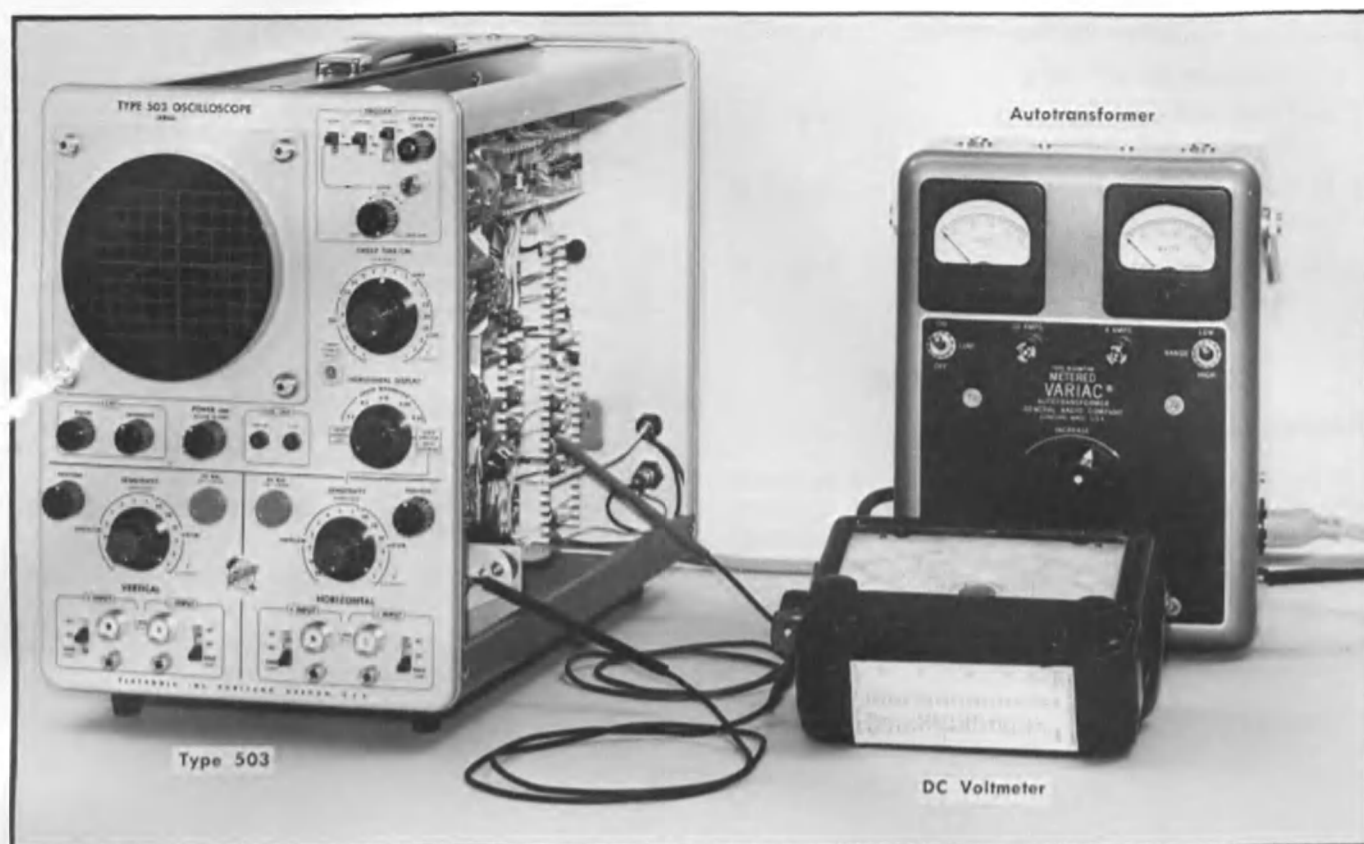

Fig. 6-3. Equipment setup for power supply adjust and check.
- Test equipment setup is shown in Fig. 6-3.